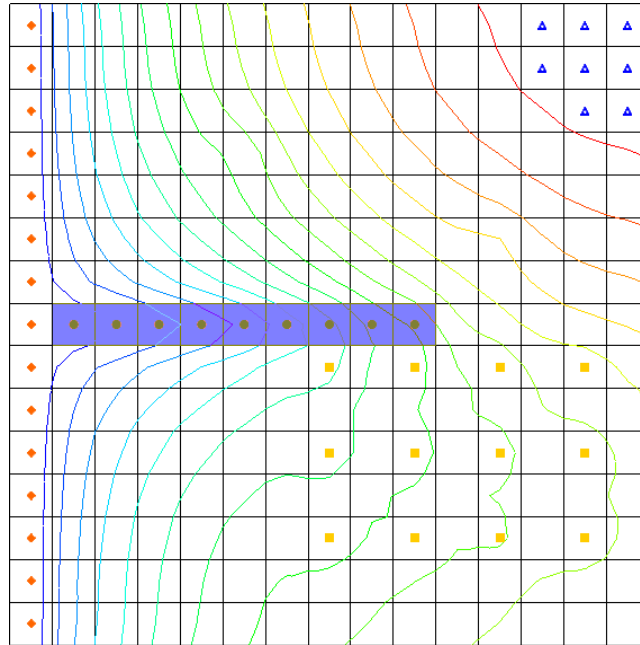

Figure 4 Location of the drain boundary conditions
1. Using the **Select Cells**  tool while holding down the *Shift* key, select the cells in columns 2–10 of row 8 (highlighted in Figure 4).